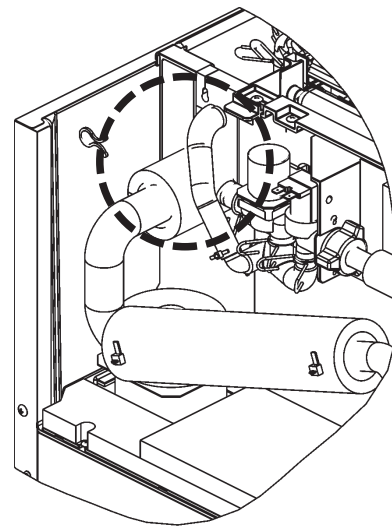

Fig. 2
- 5) Disconnect the bin control at the 2-pin connector attached to the black wires (located in the circle in Fig. 2) coming from the K1 connector (pins 4 & 5) on the control board.
starts after the thermistor temperature reaches 36°F (2°C). After this period, the freeze cycle operation is transferred to the float switch for freeze termination. During the first 5 minutes of freeze, confirm that the evaporator temperature drops. After the minimum freeze period, disconnect the float switch at the 2-pin connector attached to the red wires. See Fig. 2 for general location. The unit should immediately switch to the drain cycle. **Diagnosis:** If the evaporator is not cold, check to see if the hot gas valve is still open or if the expansion valve (on KM-151BAH, KM-151BWH only) is not opening properly, if the water valve is continuing to fill the reservoir, if there are improper unit pressures or an inoperative compressor. If the unit remains in freeze with the float switch removed, replace the board.